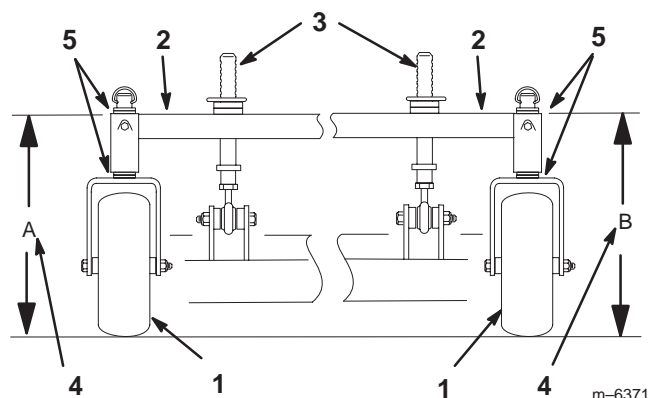

Figure 53
4. Measure carrier frame height at location A (Fig. 53).
5. Measure carrier frame height at location B (Fig. 53).